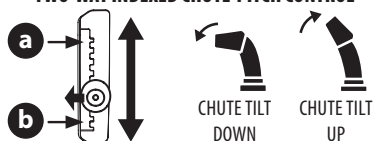

Figure 59
To raise or lower the upper chute, move the lever forward or backward (Figure 59).
- **To Reduce the Distance Snow is Thrown:** Move the lever forward to tilt the upper chute down (Figure 59).
- **To Increase the Distance Snow is Thrown:** Move the lever rearward to tilt the upper chute up (Figure 59).
- **To Reduce the Distance Snow is Thrown:** Disengage lever from the current chute setting. Move the lever forward to tilt the upper chute down to the desired setting (a) (Figure 59).
- **To Increase the Distance Snow is Thrown:** Disengage lever from the current chute setting. Move the lever rearward to tilt the upper chute up to the desired setting (b) (Figure 59).